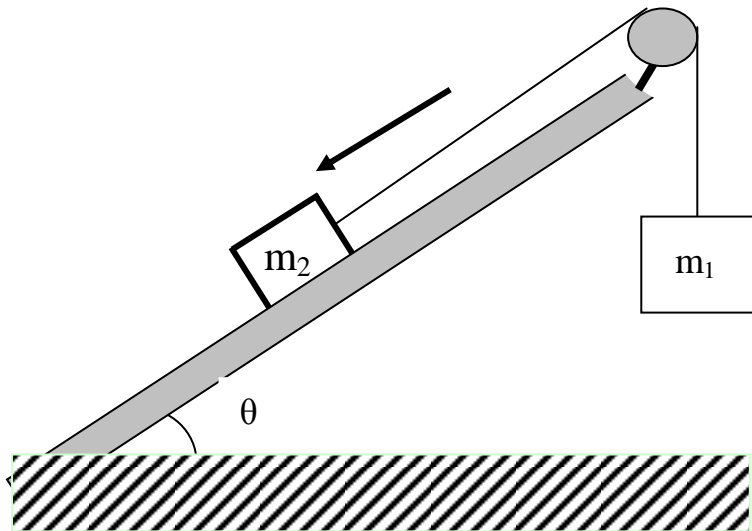

Figure 9.1: Equipment Setup
- 1- Place the cart with the friction block on the ramp. Set up the ramp (see Fig. 9.1) at a relatively low angle (one that does not cause the friction block to begin sliding down the ramp by itself).